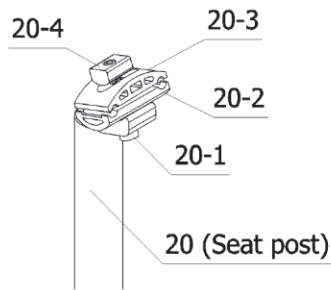

Figure 23-1.
- a. First, loosen the screw (Part 20-1) on Part 20 with a 6 mm Allen wrench, but do not remove it, as shown in Figure 23-1.